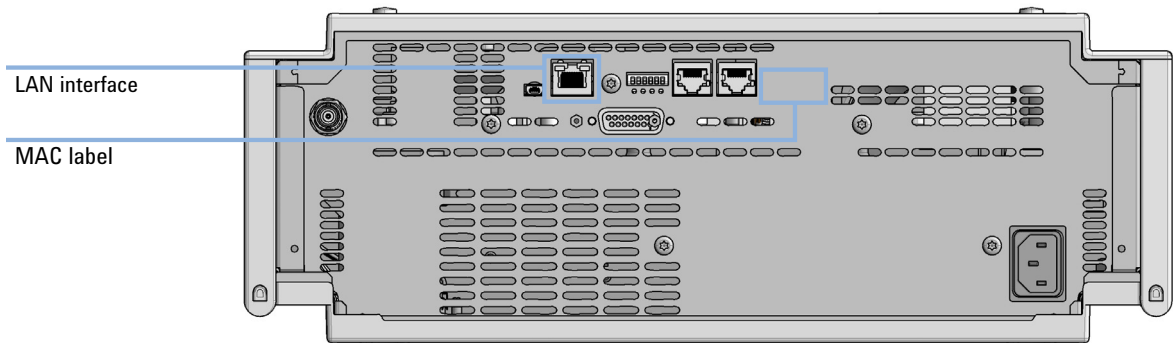

Figure 56 Location of LAN interfaces and MAC label
- 1 Note the MAC (Media Access Control) address for further reference. The MAC or hardware address of the LAN interfaces is a world wide unique identifier. No other network device will have the same hardware address. The MAC address can be found on a label at the rear of the module underneath the configuration switch (see Figure 56 on page 207).
- 2 Connect the instrument's LAN interface (see Figure 56 on page 207) to